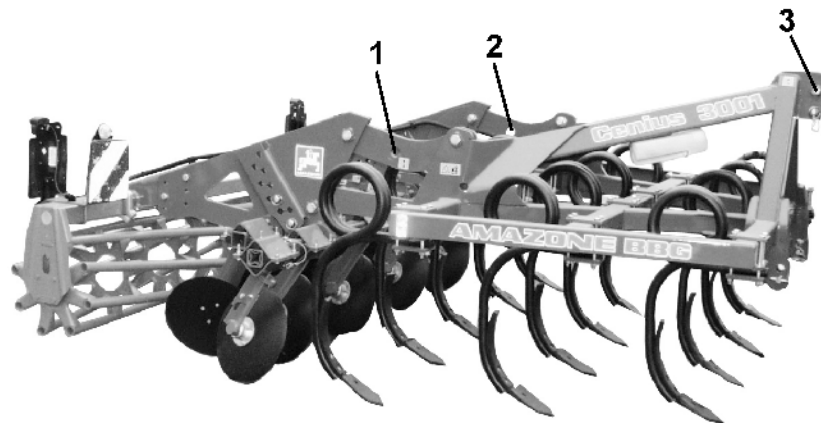

Fig. 2
- Cenius 3001 is provided with 3 fixing points (Fig. 2/1,2,3) for lifting straps.